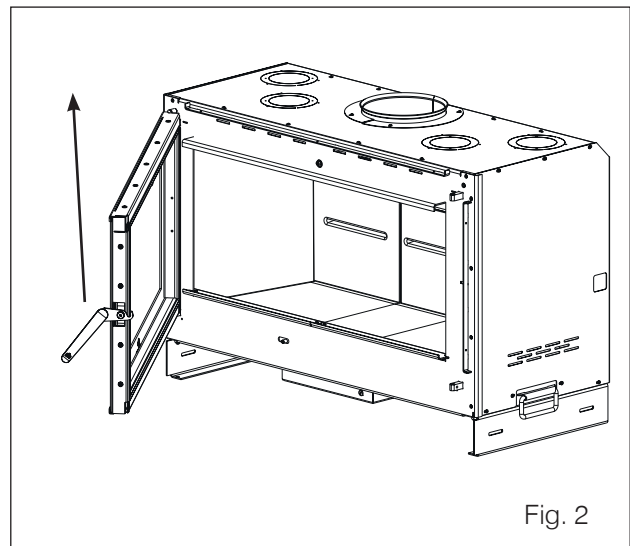

Fig. 2
- Remove it to make the job easier by sliding it off the pins (fig 2) and details on door inversion instructions or leave it